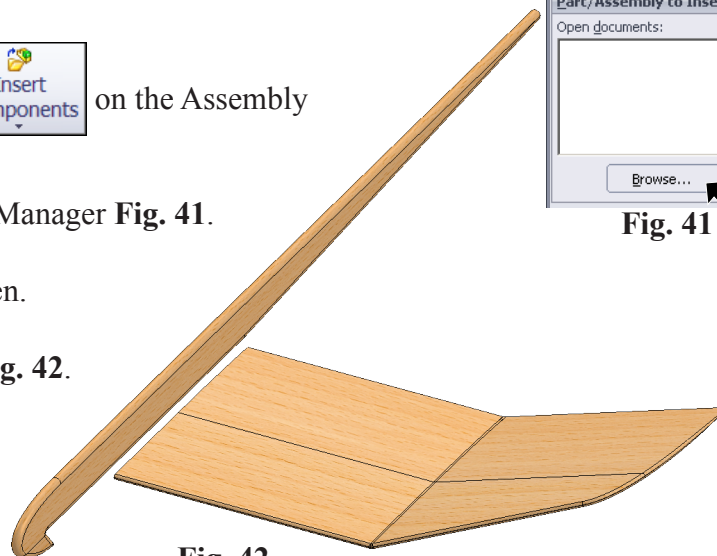

Fig. 42
Step 5. Place Wing as positioned in **Fig. 42**.